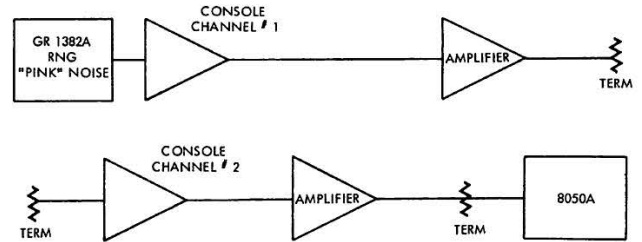

Figure 9. Measuring Crosstalk
8. Examination of crosstalk between lines (see Figure 9).